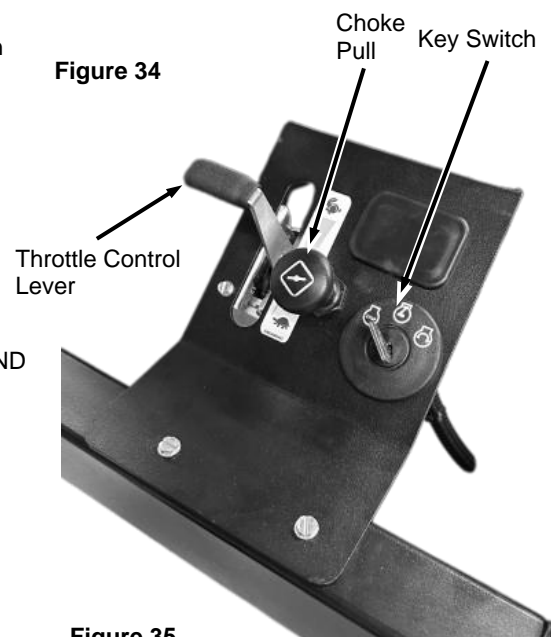

Figure 35
2. When starting a cold Engine, push the Throttle Control Lever down to the  position. Engage the Choke by pulling up the Choke Pull (**Figure 35**). When starting an already warm Engine, push the Choke Pull down and ensure the Throttle Control Level remains the same at the  position.
2. Move Throttle Control Lever all the way down to the Idle  position and turn Key to Stop  (**Figure 35**).